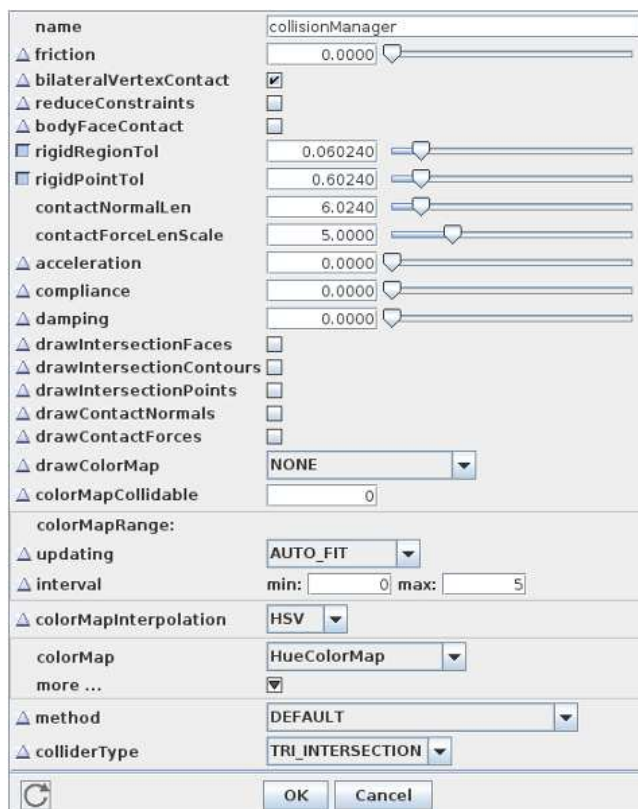

Figure 69: Property panel for the collision manager.
- More detailed collision control can be realized by selecting the `MechModel`’s collision manager in the navigation panel (Section 4.2). Choosing “Edit properties ...” or “Edit render props ...” from the right context menu then allows other properties to be set to control either the collision behavior or the rendering of collisions. A sample property panel is shown in Figure 69, and these properties are described in the “Collision Handling” section of the ArtiSynth Modeling Guide.